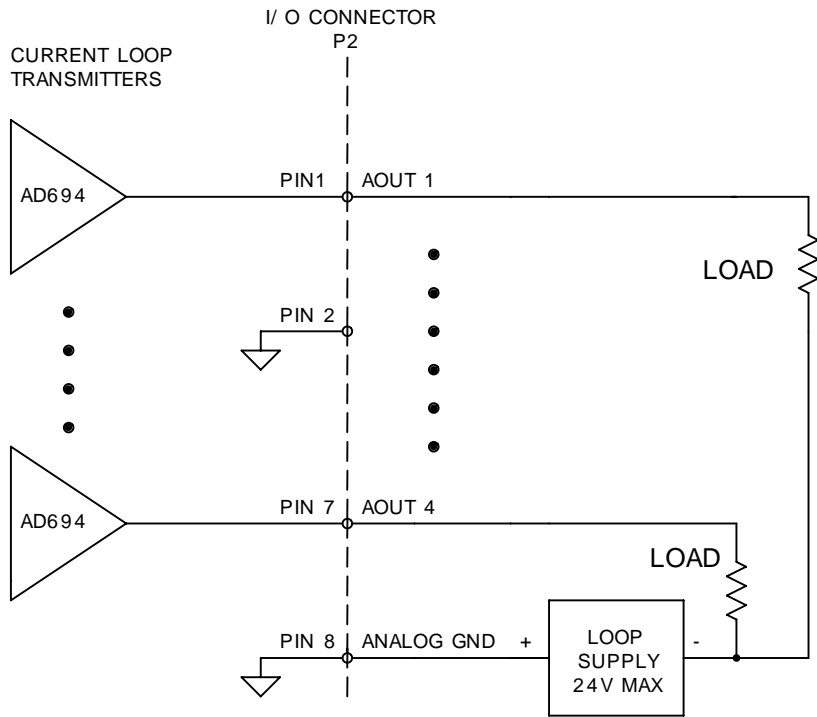

Fig. 2-4 — Current Output Connections, Single Loop Supply
**Current Loop Operation, Single Loop Power Supply:** Figure 2-4 shows how to connect the current loop transmitter outputs to corresponding loads with a single external loop supply not exceeding 24 volts. The AD694 current loop transmitters used on the 602/5602 are powered through the module by +12 volts. When operated with a +12 volt supply, the AD694 can source a current to a point as low as 24 volts below common.